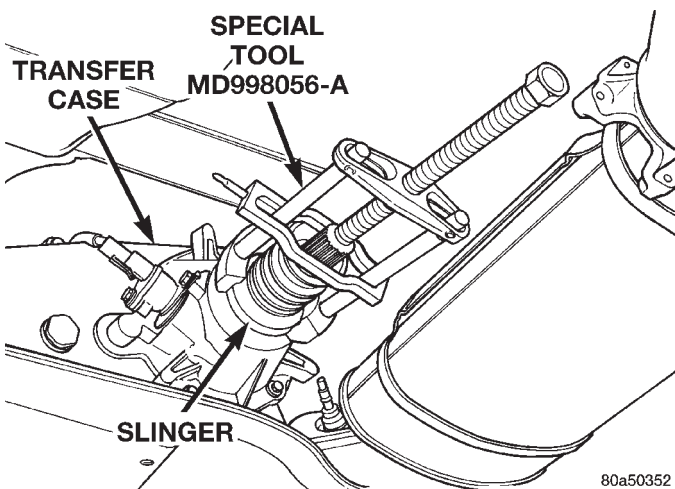

Fig. 8 Rear Slinger Removal
- (1) Remove the speedometer adapter.
- (2) Spread band clamp which holds output shaft boot to slinger with a suitable awl, or equivalent.
- (3) Remove output shaft boot from slinger and output shaft.
- (4) Using Puller MD-998056-A, remove rear slinger (Fig. 8).